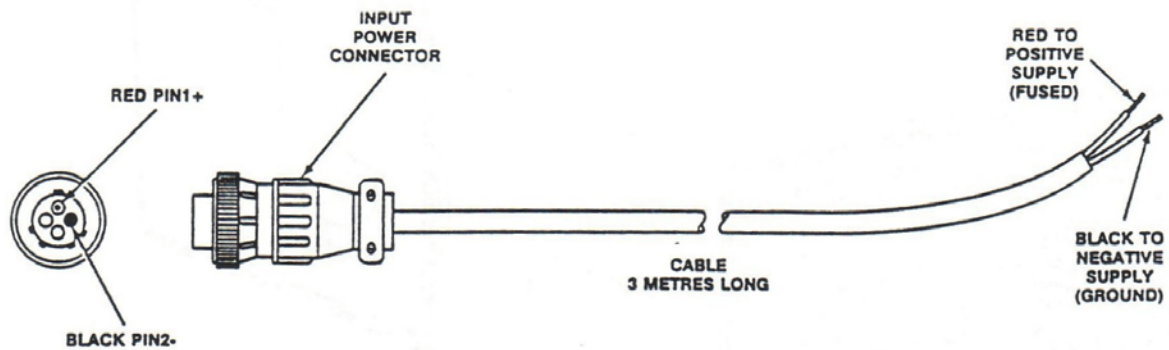

Figure 1-3 Power Input Cable Assembly - General View
- (c) Power Input Cable Assembly, Part Number 863701, is a three-metre length of two- core cable terminated at one end by a two-pin, female contacts, connector, which mates with the two-pin, male contacts, connector located at the left-rear of the transceiver. The unterminated end of the cable is connected to the 12Vdc vehicle power supply negative-ground during installation. A view of the cable assembly is given in Figure 1-3.